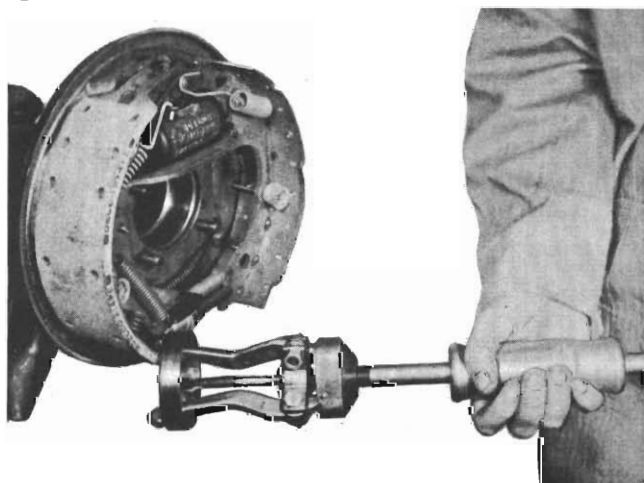

Fig. 2 - Removing axle bearing cup using Tool E6666
(4) Remove the bearing cup, where necessary, using a suitable tool, i.e. E6666 (slide hammer) Fig. 2.